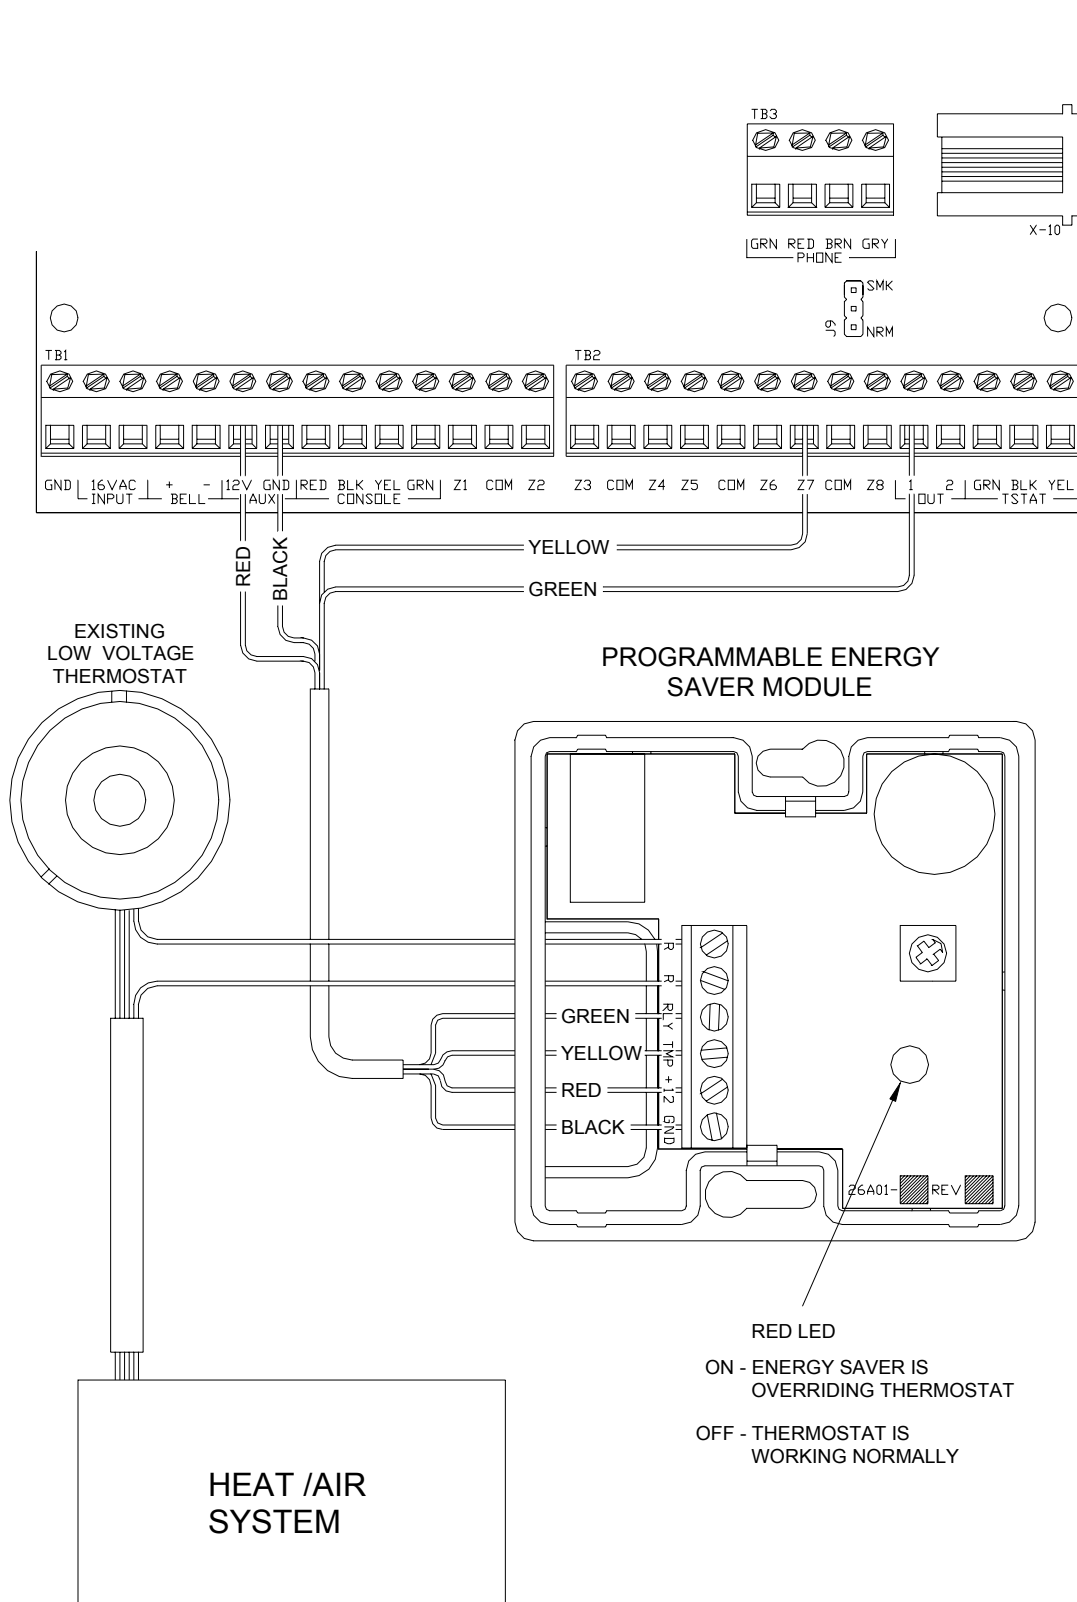

FIGURE 12 - PESM CONNECTIONS
2. Run a 4-conductor wire from the OmniLT controller to each PESM. Connect as shown in FIGURE 12.